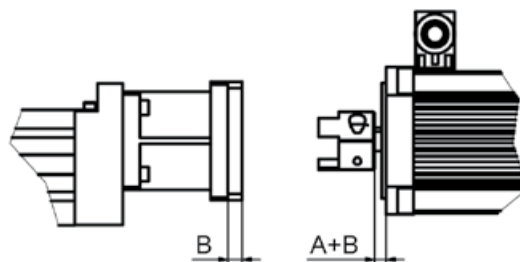

Figure 3.14 — Mounting dimension
1. Insert the coupling hub **2** on the drive or gearbox shaft. The dimension A (Figure 3.14) from Table 6.24 in Chapter 6.2.4.2 and dimension B when using an optional intermediate flange **5**, should be considered.